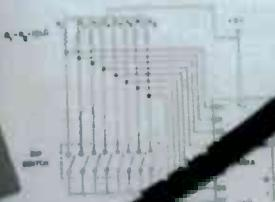
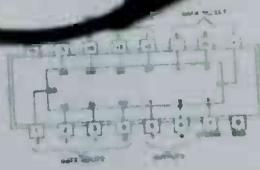

Fig. 16 Circuit for Experiment 2
Fig. 17 Pin diagram for 74191A
Figure 16 shows the circuit diagram for this experiment. You'll need the IC array included in the diagram. For three ICs in Fig. 17, which shows parts in 74191A data, for the 10- Ω resistors, for the eight-pole DIP switch in conjunction with 10- Ω resistors for the Select and Stroke lines, finally, you'll use the 10-pole switches.
- Next, connect the train data switches to the Select, and on the IC, using Fig. 17 as a guide. Initially, set SW1 to 0 on the IC, using Fig. 17 as a guide. Initially, set SW1 to 0 on the IC, using Fig. 17 as a guide.